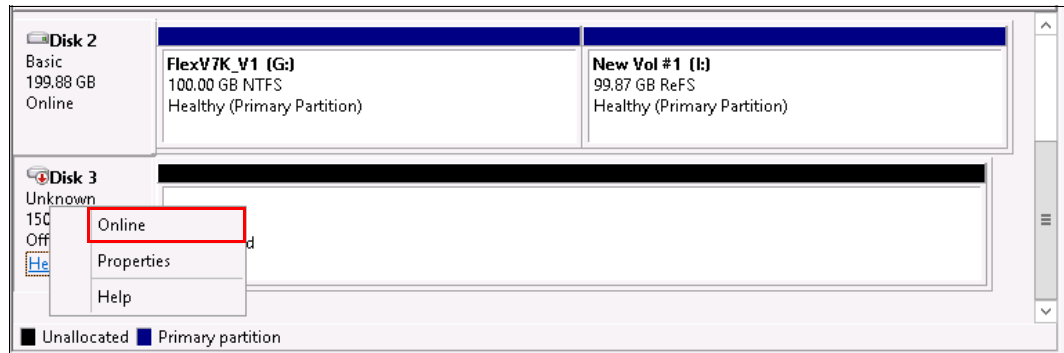

Figure 12-7 Place a disk online
7. In the following steps we will be using the Disk Management window to prepare the disk and present it to the users and application for data storage. Right-click the disk in the left pane and select **Online** (Figure 12-7).